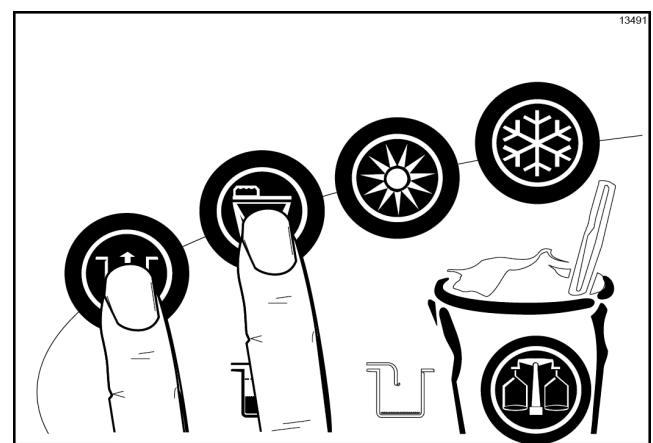

Figure-160
- Press the Wash and Mix Pump symbols to stop the Wash and Mix Pump modes and to close the draw valve. (See Figure-160.)